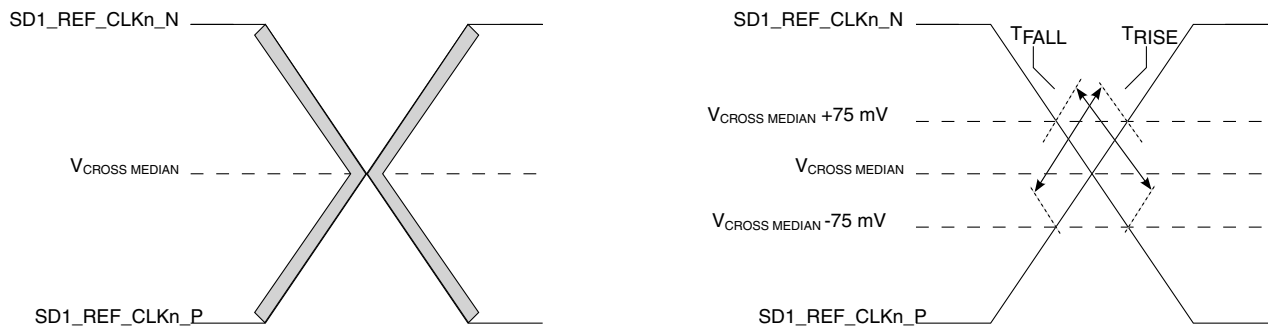

Figure 94. Single-ended measurement points for rise and fall time matching
- Matching applies to rising edge for SD1_REF_CLK n _P and falling edge rate for SD1_REF_CLK n _N. It is measured using a +/-75 mV window centered on the median cross point where SD1_REF_CLK n _P rising meets SD1_REF_CLK n _N falling. The median cross point is used to calculate the voltage thresholds that the oscilloscope uses for the edge rate calculations. The rise edge rate of SD1_REF_CLK n _P must be compared to the fall edge rate of SD1_REF_CLK n _N, the maximum allowed difference should not exceed 20% of the slowest edge rate. See Figure 94.